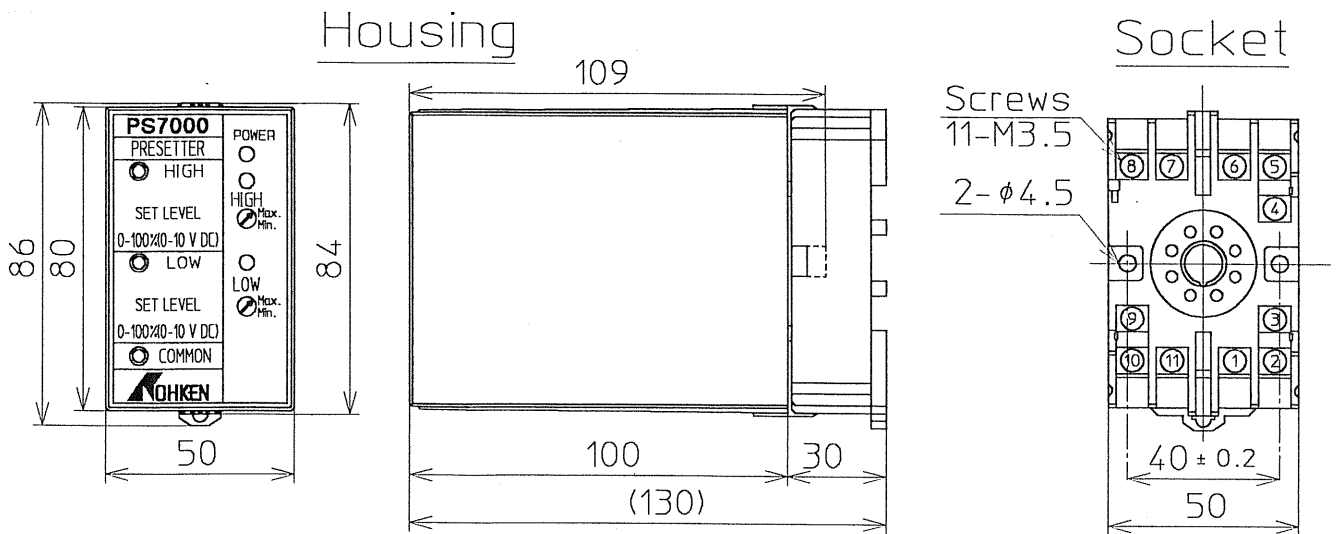

Fig. 3 Outline drawing of Model PS7000
Proceed as follows : (See Fig. 3)
- (2) Turn on the power.
- (3) Check the "power indication lamp" is ON, indicate power on. See Fig. 3.
- (4) Check the output of contact actuation correctly.